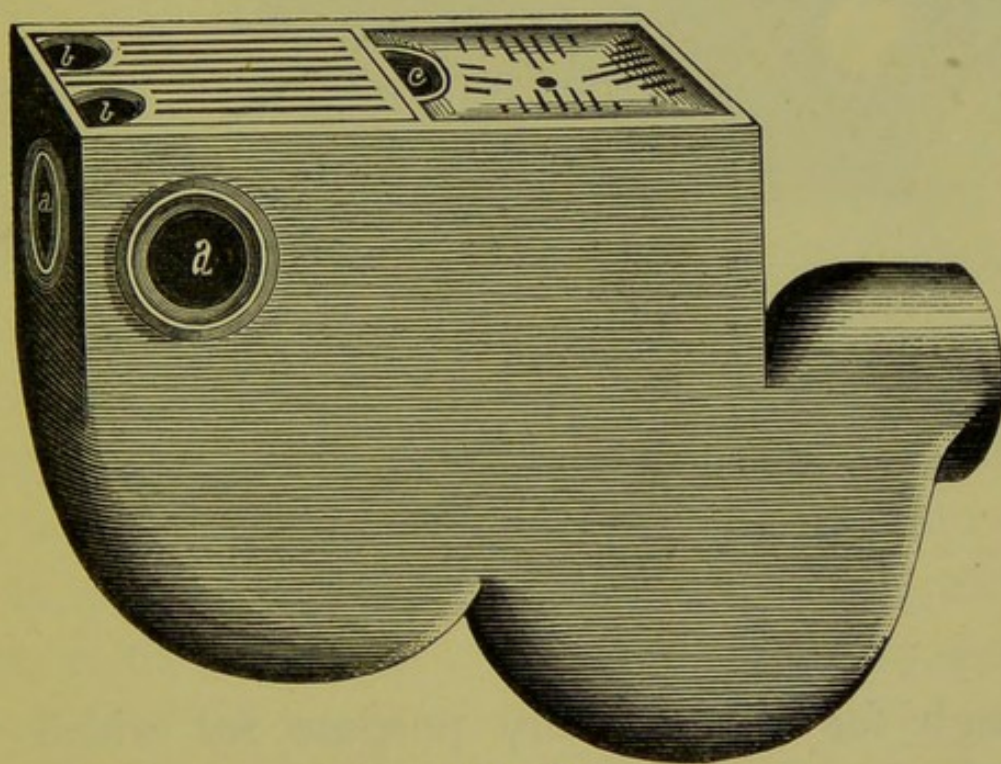
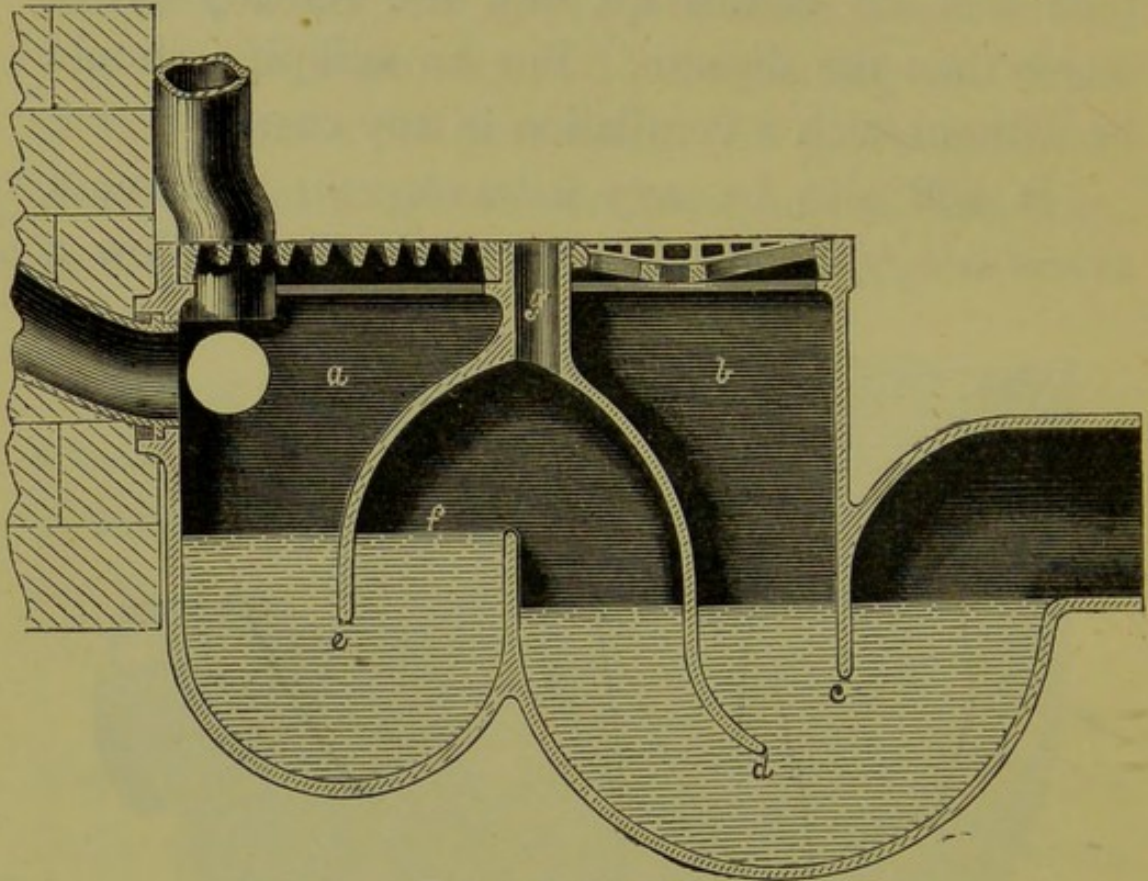

FIG. 16.
FIG. 17. SECTION.
Patent "Triple-dip Trap, or Waste-receiver and Drain-interceptor."—The writer has taken out a patent for this trap. It can be made in any size, but the size, as given in Fig. 16, is large
enough for almost every purpose for which it should be used. The trap is made in cane-coloured pottery-ware. Fig. 16 shows a view of this trap, and Fig. 17 a section.
The compartment *a*, Fig. 17, is used exclusively for receiving waste-pipes from baths, lavatories, sinks, and such-like wastes, but *not for sewage wastes*. Section and description.
The compartment *b*, Fig. 17, is for taking away the surface drainage, when the trap is fixed in the area, yard, or any such place; and also for providing a way of escape into the open air for any strong current of air blowing through the drain, and for preventing its passing into the waste-receiving compartment, where the ends of the various waste-pipes are left open.
There are *three* water-dips (or water-locks) in this trap, and before any noxious gases from the drain can get to the waste-pipes emptying themselves into the waste-receiving compartment, they must push their way through two separate bodies of water and three water-dips—*i.e.*, a depth of $3\frac{3}{4}$ in. at the first two dips, and another depth of 2 in. at the third dip. The dip *c*, Fig. 17, goes down into the water $2\frac{1}{2}$ in.; the dip *d*, Fig. 17, goes down $1\frac{1}{4}$ in. lower into the same water. The dip *e*, Fig. 17, is in another compartment, and goes down into the water $2\frac{1}{2}$ in. Three water-dips.
Suppose a strong current of air to be blowing up through the drain, and to force its way through the *first* dip, *c*, Fig. 17, it would at once escape Difficult for any current of air to pass from the
into the external air through the compartment *b*, Fig. 17, for the *second* dip, *d*, Fig. 17, is $1\frac{1}{4}$ in. lower in the water. But even supposing this strong current of air in the drain forces itself under dip *d*, as well as *c*, into the compartment *f*, Fig. 17, it would at once escape through the air-pipe, *g*, and would never get into the compartment *a*, under the *third* dip, *e*, Fig. 17.
The top of the trap is protected by two separate galvanised iron* gratings, as shown in Fig. 16, that to the waste-receiving compartment is fitted to the pipes entering into the trap, and that to the other is sunk to receive the surface-water.
Means are provided by a countersunk hole, as *a*, Fig. 16, in each of the three sides of the waste-receiving compartment, to receive "horizontal" waste-pipes, and when not required, such holes are filled up with a stopper, of the same ware as the trap, made for the purpose; or the waste-pipes can be taken in at the top, as shown in Fig. 17. When the pipes enter at the top they must not go more than 3 in. into the trap, or down to the same level as the pipes entering at the sides, so that the *ends* in each case may be left *open to the atmosphere*. This "waste-receiver" should always be fixed a yard or two away from
* The grating in the *Diagram*, Fig. 16, for taking away surface-water, is not shown with sufficient water-way.